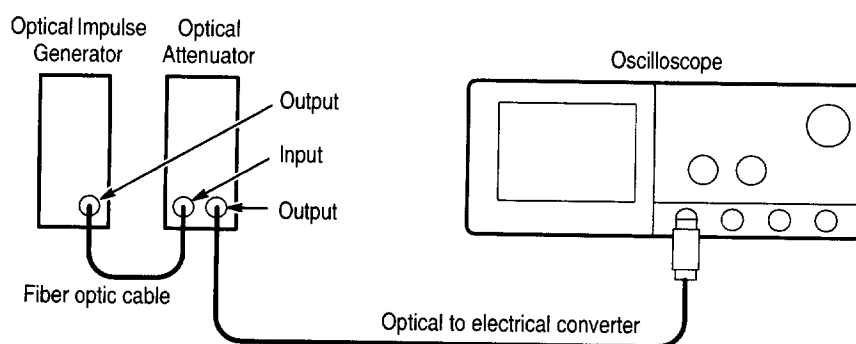

Figure 1–44: Reference-receiver performance-verification set up
- Connect the optical probe to CH 1 of the oscilloscope under test (see Figure 1–44).